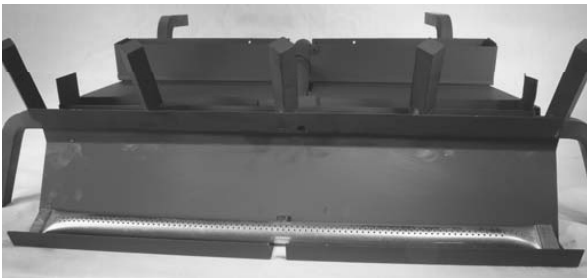

Figure 11
3. Push the ember burner pan backwards, towards the main burner, snapping the top of the ember burner pan beneath the grate support. See Figure 11.